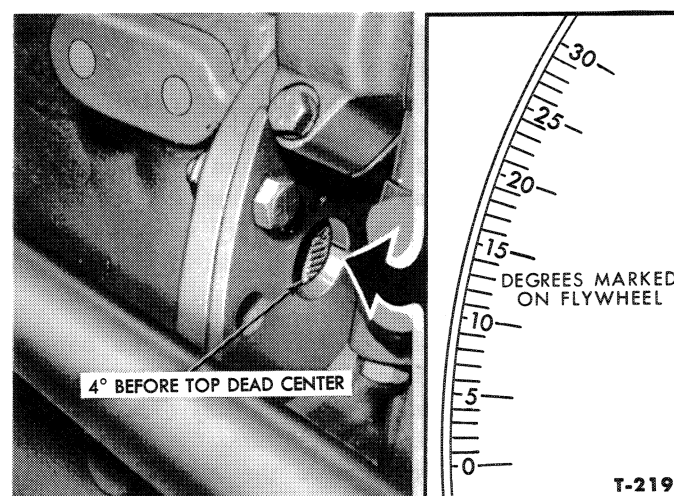

Figure 15—Flywheel Timing Marks
5. Remove the timing hole cover on the flywheel housing. Observe the location of 4° before top dead center for all models, Figure 15. If the mark does not align with the pointer, insert a screw driver in the timing hole and rotate the flywheel until the correct mark on the flywheel does align with the timing pointer on the housing.
5. If the timing at 450-475 rpm does not concur with Figure 15, loosen the distributor mounting screws and turn distributor counterclockwise to advance the timing or clockwise to retard the timing. Be sure to tighten the mounting cap screws securely, after adjustment. Recheck the timing after the distributor is tightened securely.